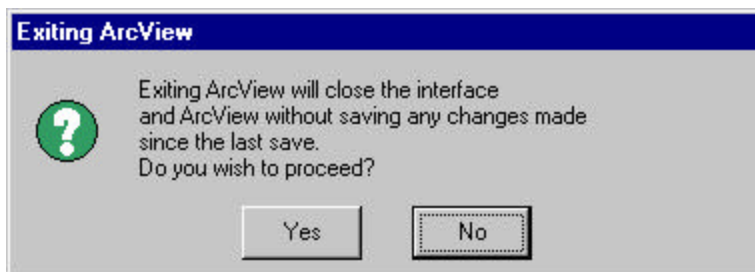

Figure 4.9
2. A prompt box will be displayed requesting the user to verify the command (Figure 4.9)